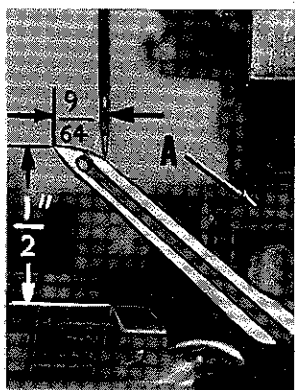

Fig. 10
Next, turn handwheel until looper is at the left end of its travel; check dimensions of upper looper point with respect to needle and throat plate (Fig. 10). If resetting is necessary, do it by moving the upper looper holder (A, Fig. 10). Figure 10 represents the dimensional setting for Style 39500 FN.
If it becomes necessary to move looper thread pull-off (AF), be sure to take up all end play in needle drive shaft before tightening. If upper looper is located so that it is higher over throat plate than recommended in Fig. 10, the purl will tend to form near top edge. If upper looper is too low, the purl will form nearer bottom edge.